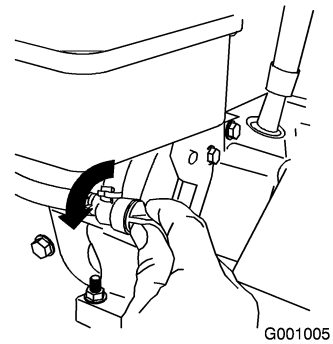

Figure 20
3. Rotate the fuel shutoff valve counterclockwise to open it (Figure 20).